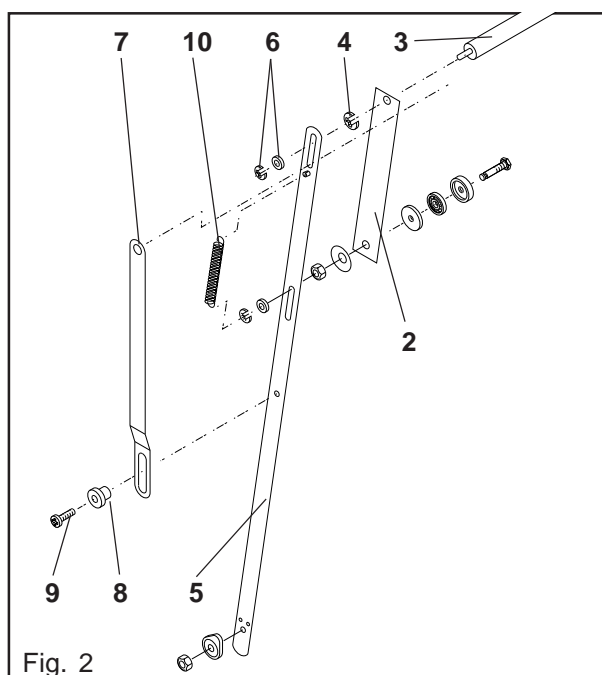

Fig. 2
- Mount the outer scraper arm (5) onto the axle and fasten it by means of the washers and retaining rings (6). (Fig. 2)
- Fasten the lever arm (7) with the collared bushes (8) and fastening screws (9). (Fig. 2)
- Hinge the spring (10) for the scraper arm. (Fig. 2)